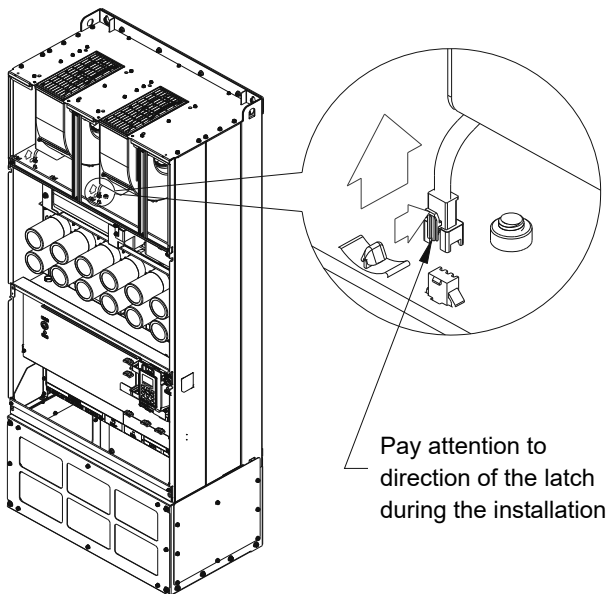

Figure 3
3. Press the latch to disconnect fan power (figure 3).